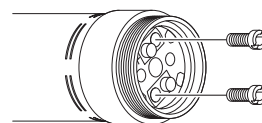

Fig. 11
- 2) Use a flat-head screwdriver to remove the screws securing the carbon brush (Fig. 11).